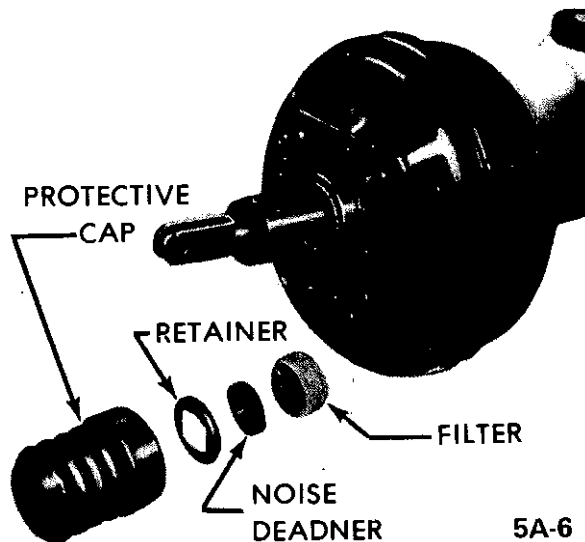

Figure 5A-6 Brake Booster Filter (GT)
2. On the GT only, pry retainer from housing using a screwdriver. See Figure 5A-6.